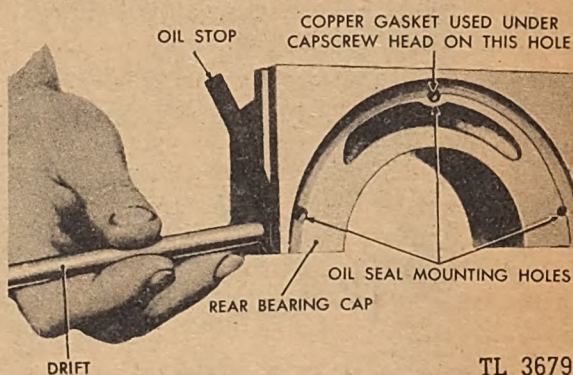

Fig. 139. Installing Oil Stops in Rear Cap
d. *Replacing Oil Stops.* Replace the rear main bearing cap oil stops during the overhaul. (See Figure 139.) If the standard oil stops are not available, the grooves can be packed with candlewick which can be firmly
NOTE: New oil stops should be installed in the cap.\* (See Figure 139.) These oil stops seal the sides of the cap to the crankcase and prevent oil from leaking through.